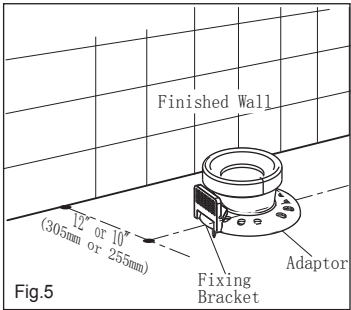

Fig.5
3. Place fixing bracket onto 'T' bolt and secure it by hand tightening nuts and washers onto the 'T' bolts. Apply an additional turn for final installation as detailed in Fig.5.